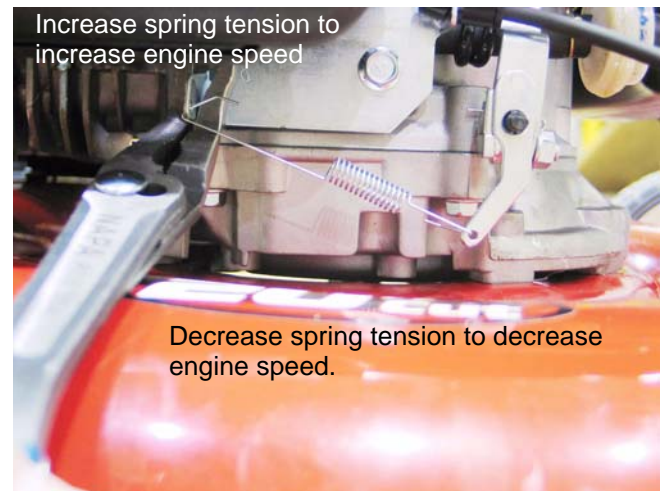

Figure 4.52
17. Adjust the top no-load speed by slightly bending the bracket that the governor spring connects to. The bracket is visible under the air filter. See Figure 4.52.